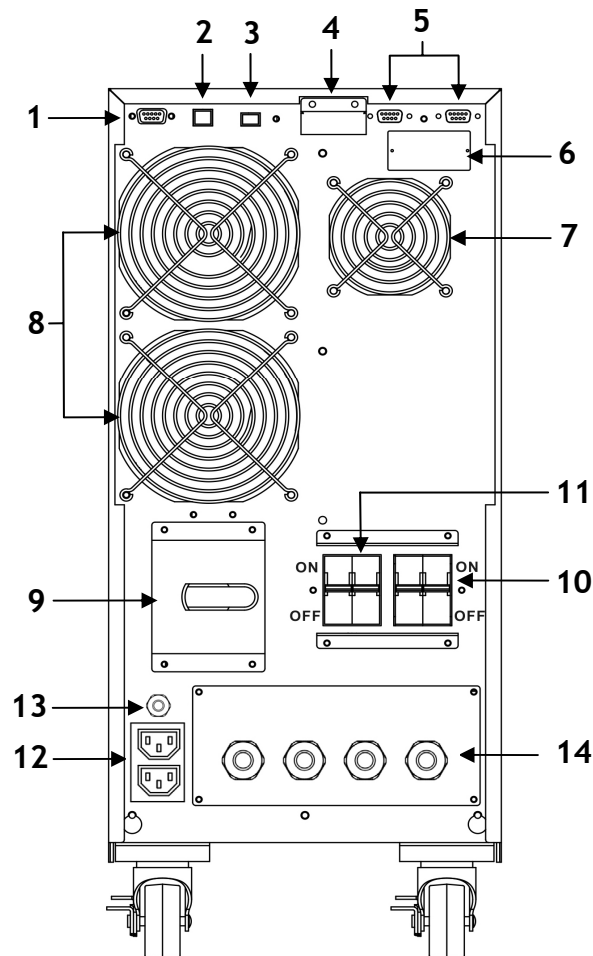
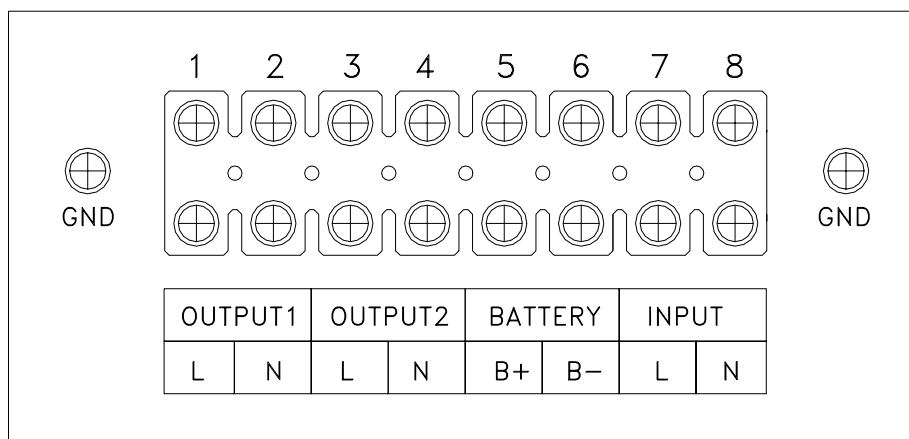

Figure 4 - Rear side
Figure 5 - Input/Output Terminals
14. **Metallic panel for access to the Input/Output terminals:** upon removal, it is possible to access the Input/Output terminals (see figure 5).
1. The Input circuit breaker on the rear panel is “OFF” (see figure 4).
2. The Battery Box circuit breaker on the rear panel is “OFF” (see figure 4).
1. Remove the **metallic panel that covers the Input/Output terminals**, see figure 4. The terminals are shown in figure 5. All the cables have to reach the terminals from the rear side using the proper holes in the metallic panel.
2. Connect the **INPUT line (LINE, NEUTRAL and GROUND)**, paying attention to the right polarity, in accordance with figure 5, as explained below:
1. Check if the Input circuit breaker the rear side is in “OFF” position (see figure 4).